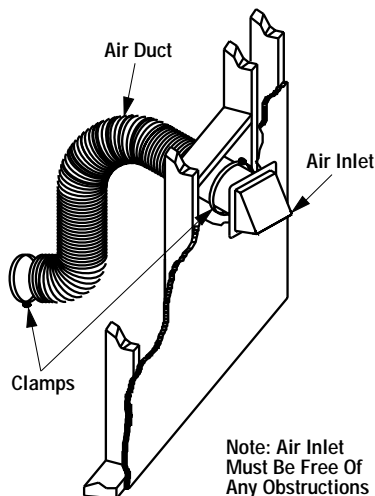

Figure 17
Step 1. Determine the location for air inlet, which can be installed through an outside wall. A 6 1/2" diameter hole will be required for installation of the air inlet assembly (see Figure 17).
Step 5. Connect the 6" (152 mm) Class 0 air duct provided, to the collar on the fireplace with the clamps provided in the kit's hardware package (Figure 17).
Step 7. Cut or frame a hole through the outside of the enclosure for the installation of the duct inlet hood. A 6 1/2" (165 mm) diameter hole is required. Feed the loose end of the flexible duct through the hole cut for the inlet hood and attach to the collar on the inlet hood using one of two clamps provided with the kit. Insert the hood into the opening. Secure in place with nails driven through the holes in hood flange. Seal with noncombustible waterproof silicon type caulking. If additional duct is needed, use Class 0 metallic air duct (refer to Figure 17).